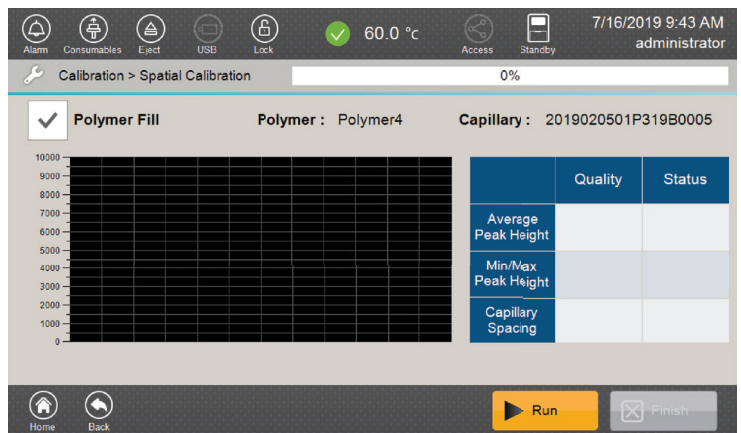
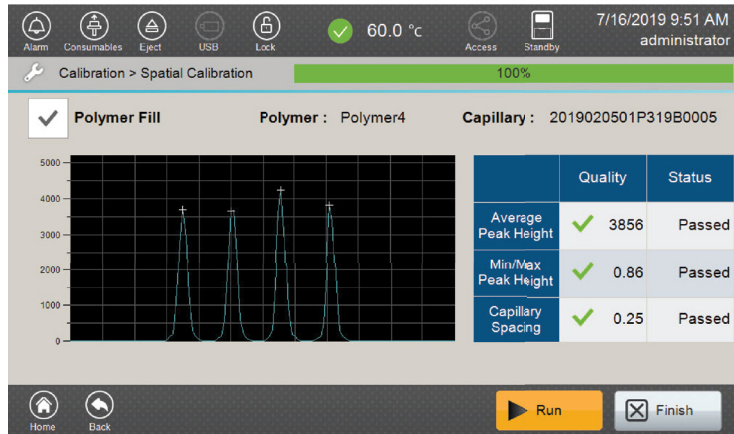

Figure 45. 'Spatial Calibration' screen.
Figure 46. Completed 'Spatial Calibration' screen.
2. On the 'Spatial Calibration' screen (Figure 45), check the **Polymer Fill** box if the capillary cartridge needs to be filled with polymer prior to performing spatial calibration.
3. Select **Run** at the bottom of the 'Spatial Calibration' screen (Figure 45) to start the spatial calibration run. During the calibration, an image of the spatial peaks for each capillary will be displayed. The progress bar below the header will show the run progress and reach 100% when the spatial calibration is complete (Figure 46).
Review the completed 'Spatial Calibration' screen (Figure 46).